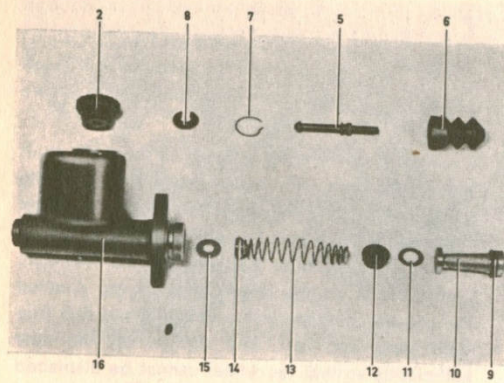

Fig. 7-19. Master cylinder
1. Fit the washer (15, Fig. 7-19) in the bottom of the cylinder.
2. Place the packing (12) on the spring guide. Dip the packing in brake fluid and fit it together with the spring and valve. Place the washer (11) in the cylinder.